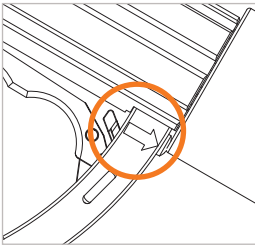

Figure 22
- ▶ Pull the locking lever (Pos. 5) back in the direction of the arrow (*Figure 22*) to release the locking mechanism and move the actuation lever to the OFF position.